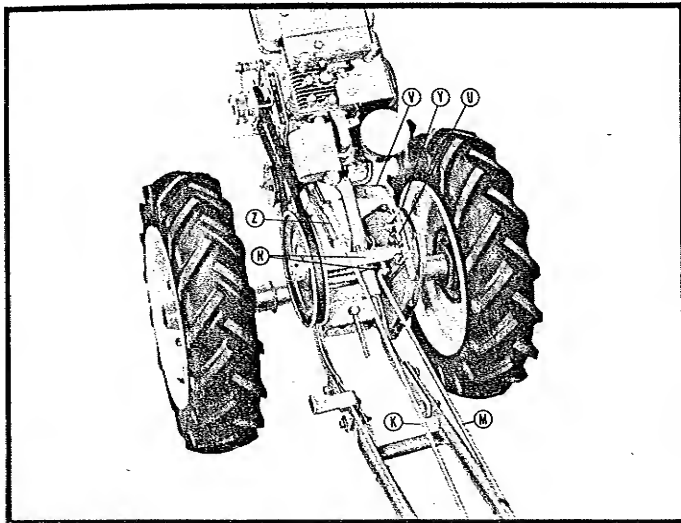
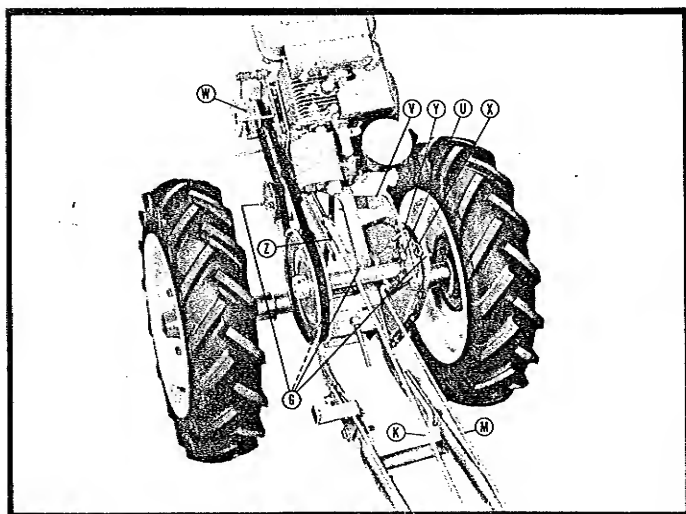

Fig. 2
Fig. 3
1. Bolt handles to the outside of tractor frame as shown. Handle bolts (F) are shipped inserted in the frame. NOTE: When bolting handles to the frame, be sure that the bushing, washers, clutch lever and lever stop are re-assembled in the same sequence as packed. To provide clearance for attachments, it is recommended that upper left handle bolt be installed head to outside as shown. Install the other three with heads to inside.
2. Attach clutch rod (G) to lower clutch lever (H) and to upper clutch lever (I) as shown.
3. Lower clutch lever (H) should rest on lever stop (J) when upper clutch lever (I) is forward.
4. Attach clutch rod (K) to idler arm as shown at (L). Figure 2 illustrates this assembly in detail.
5. Attach reverse rod (M, Fig. 2) to bearing housing (N, Fig. 2) as shown.
TWO FORWARD SPEEDS — See Fig. 2 and Fig. 3
The Model LC tractor has two forward speeds. Engine pulley position for these speeds are illustrated in Figures 2 and 3. Figure 2 illustrates the High Speed, recommended for all attachments except tiller. Notice in Figure 2 that the lock bar pin (U) is located in second hole from rear of lock bar (V). When changing to low speed, please refer to Figure 3. Remove Belt. Loosen engine pulley set screw (W), remove engine pulley,
turn it around and replace with large pulley to outside as shown in Figure 3.
Remove spring clip (X) and lock bar pin (U). Pull transmission slightly to the rear so that pin (U) will enter rear hole as shown in Figure 3. To facilitate this adjustment, a convenient handle (Y) is provided. Replace spring clip (X) to hold pin. Replace tractor drive belt.
There are four high pressure grease fittings on the tractor, one grease fitting on the idler pulley, one on the main axle housing, one on the gear case and one on the bearing housing. **They are located in Fig. 3 and designated with letter (G).** Grease the idler pulley every 4 to 6 hours of use. Grease the main axle housing every 12 to 15 hours of use. The gear case housing will require a few shots of grease every 40 to 50 hours of use. Lubricate the bearing housing every 5 to 6 hours of operation. Use a general purpose semi-solid grease in the grease gun supplied with the tractor.